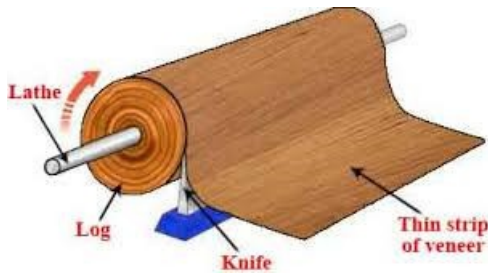

Fig. 133: Rotary cutting
- b. **Rotary Cutting (Peeling):** The most economical method, the sheets are large. These are used to manufacture plywood, block board, and particle board. The log is fixed between centres in a large lathe and forced to rotate against a knife that peels off a continuous sheet of veneer between 0.8mm and 6mm thick (figure 133).